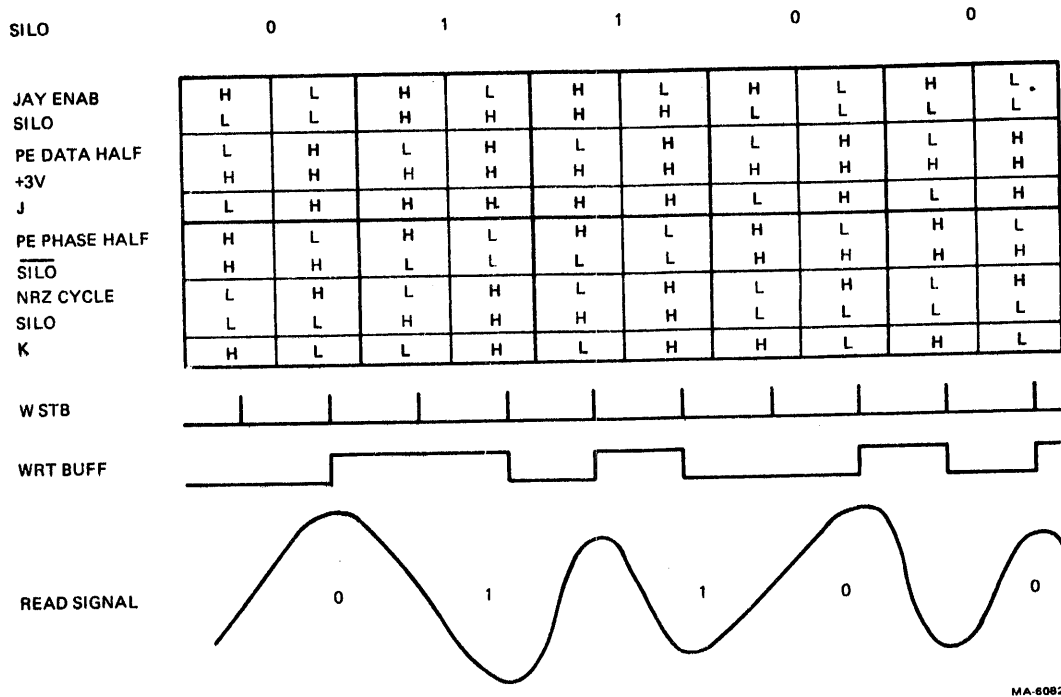

Figure 6-37 Write Data - Track n
6.6.3.3 Data Write Operation – Timing for write operations is shown in Figure 6-36. Operation of the WRT BUFF flip-flops is shown in Figures 6-37 through 6-40.
To see the operation of the write buffer flip-flops, refer to Figure 6-37. Keep in mind that the JK flip-flops will toggle if strobed with both J and K inputs high, and will not change if strobed when both inputs are low. The dominant signal states are indicated in boldface.